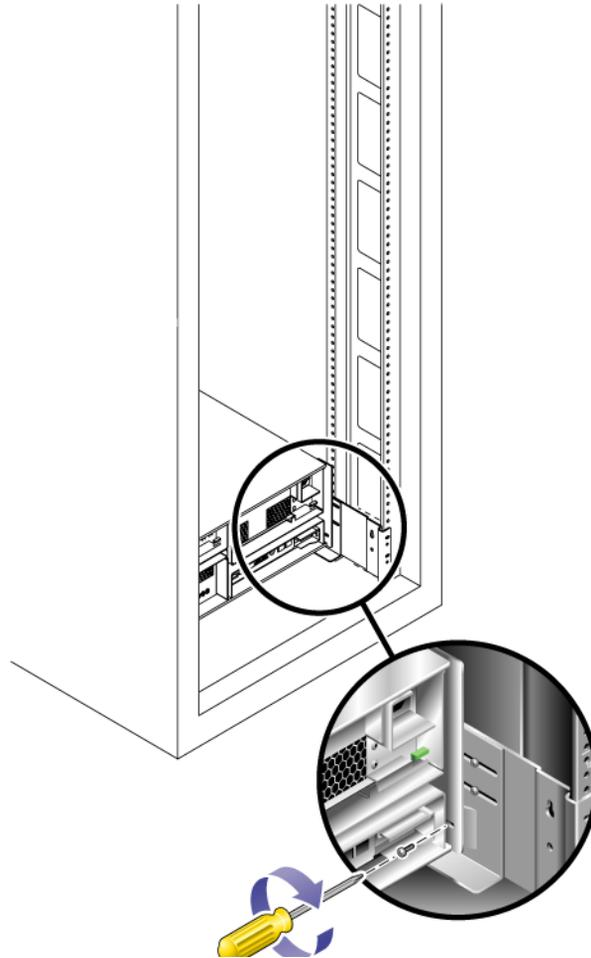

FIGURE 2-11 Securing the Unit to the Back of the Cabinet Rail
4. Install and tighten two 6-32 screws (one per side) at the back of the unit, to secure the back of the unit to the cabinet (FIGURE 2-11).